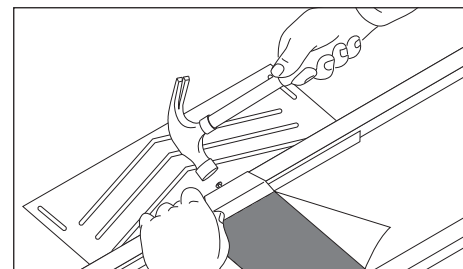

Fig. 2 – Cut and nail back underlay
- 7 Secure soaker tray by folding cut underlay over batten and nail into top edge of tiling batten above (Fig. 2).